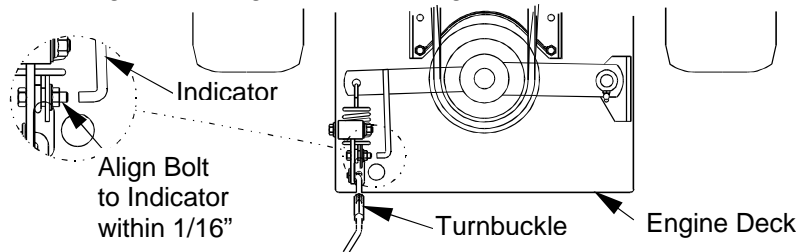

FIG. 12
- c) Look through the round hole in the left rear corner of the engine deck to inspect blade clutching belt tension. Bolt on blade engagement linkage bellcrank and indicator arm should align within 1/16” (See fig. 12). Refer to section 5.2.2 for adjustment.
- b) With blade drive engaged, adjust the linkage length by loosening the locknut on the turnbuckle and adjusting the turnbuckle so that the bolt on the bellcrank and the indicator arm align with each other within 1/16". See Figure 12. Tighten locknut against turnbuckle.